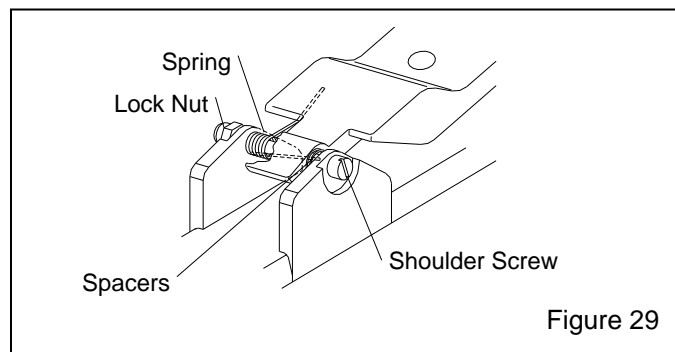

Figure 29
6.8.3 Handle lever replacement, Figure 29
6.8.3.1 Remove the lock nut from the shoulder screw. Before removing the screw, note the positions of the spacers and spring as shown in Figure 29. The bent end of the spring is against the handle lever, facing up. The straight end is against the body, facing down.